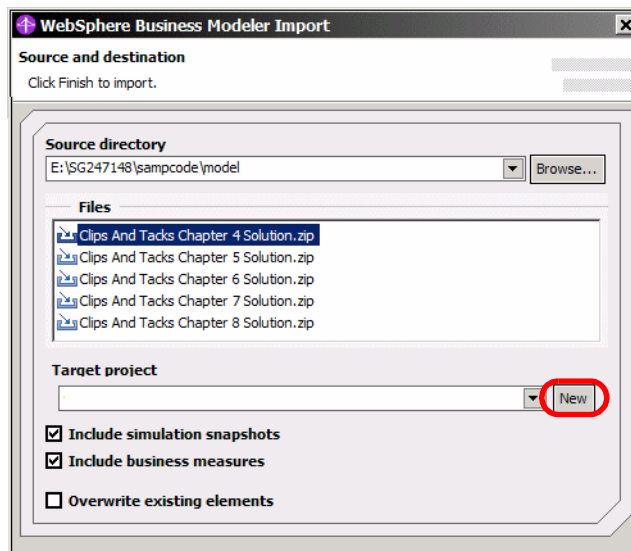

Figure 4-3 Importing a model
- ▶ Click *Browse* to select the source directory that contains the file you want to import (Figure 4-3).